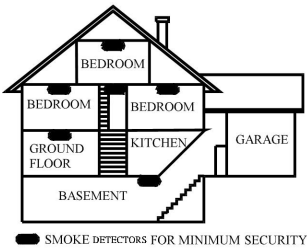

Figure 3: LOCATION FOR PLACING SMOKE DETECTORS FOR A MULTI-FLOOR RESIDENCE
- Install a smoke detector on every floor of a multi-floor home or apartment, as shown in **Figure 3**.